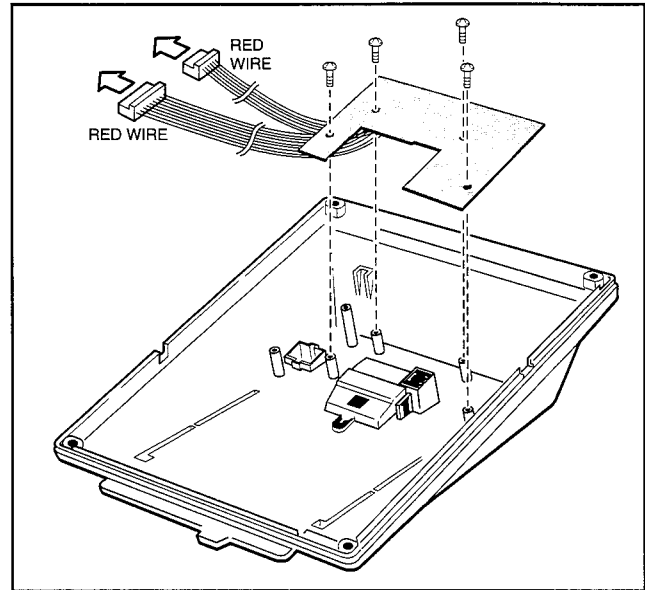

FIGURE 6-6
- 2) Loosen the four captive screws securing the metal plate to the standoffs inside the base where the DVSU will be installed (Figure 6-6). Remove the plate, which can be discarded.
- 3) Position the DVSU PCB on the standoffs (Figure 6-6), and secure with the four provided screws.